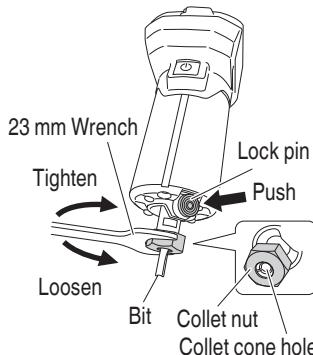

Fig. 9
- With the bit inserted and pressing the lock pin holding the shaft, use the 23 mm wrench to firmly tighten the collet nut in a clockwise direction (viewed from under the tool). (Fig. 9)